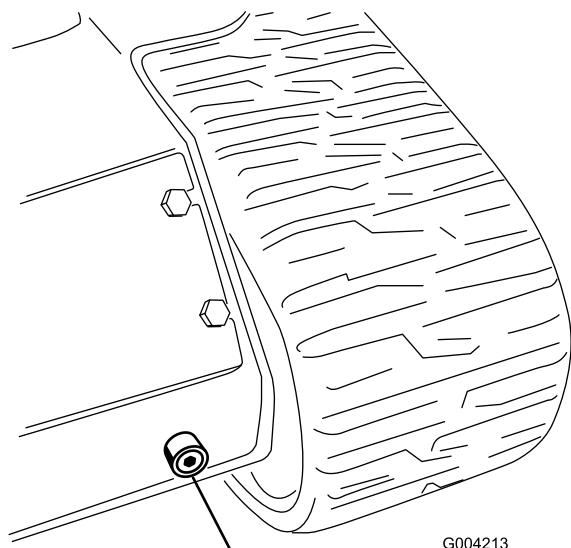

Figure 50
6. Place a large drain pan (capable of holding 15 US gallons) under the drain plug on the front of the traction unit (Figure 50).
7. Remove the drain plug and allow the oil to drain into the pan (Figure 50).